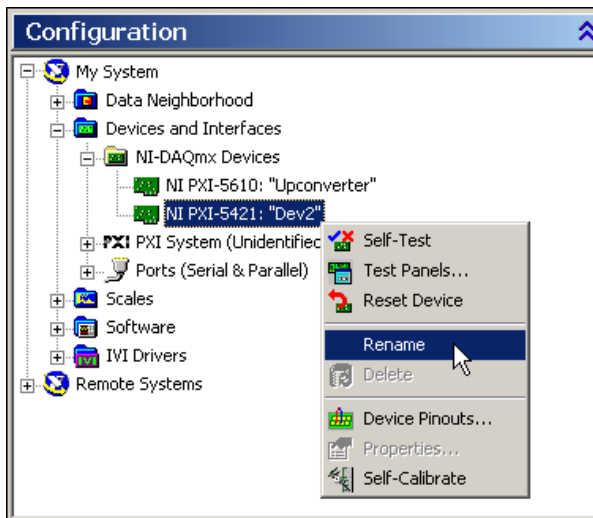

Figure 1-12. Rename the NI PXI-5421 AWG Module
7. Right-click the NI 5421 AWG module and select **Rename** from the shortcut menu as shown in Figure 1-12.